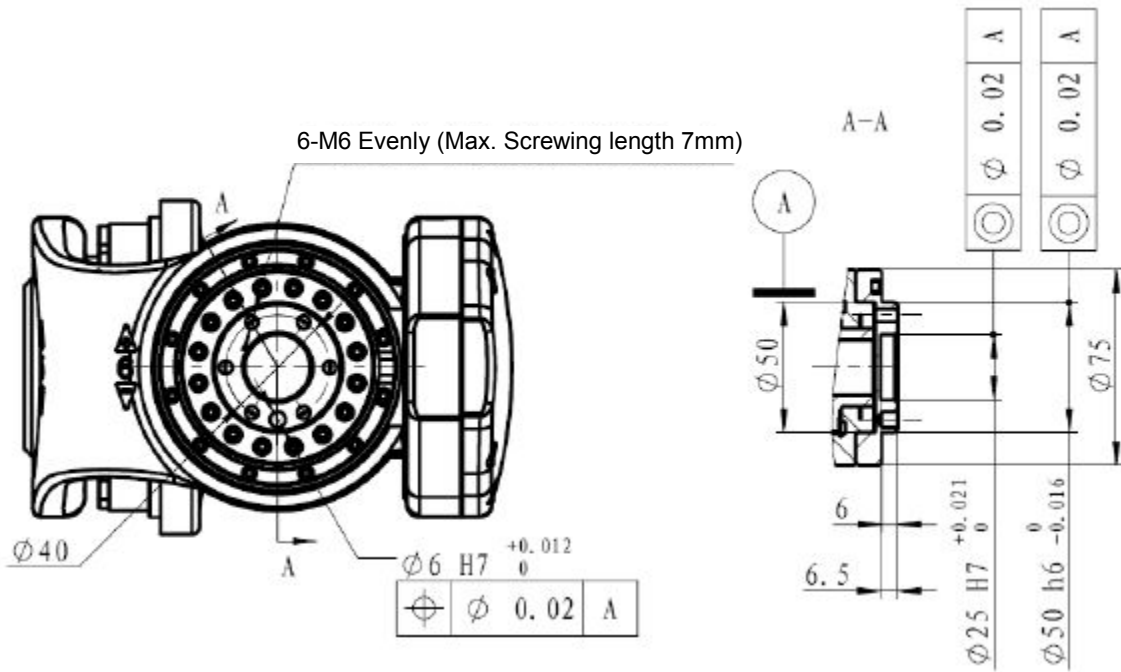
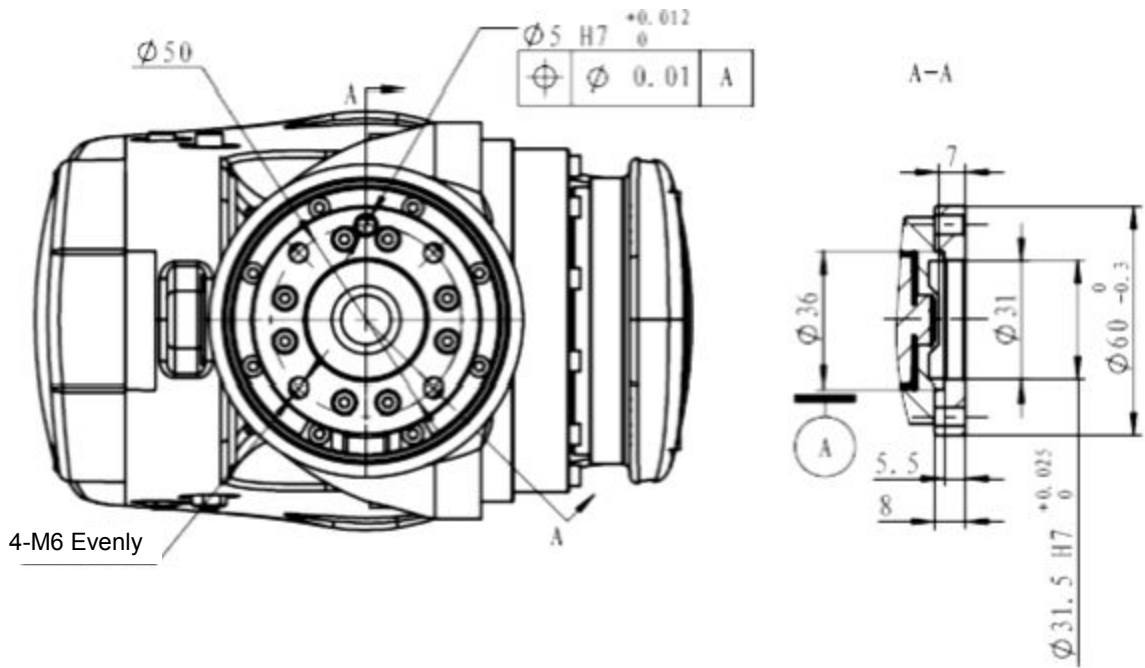
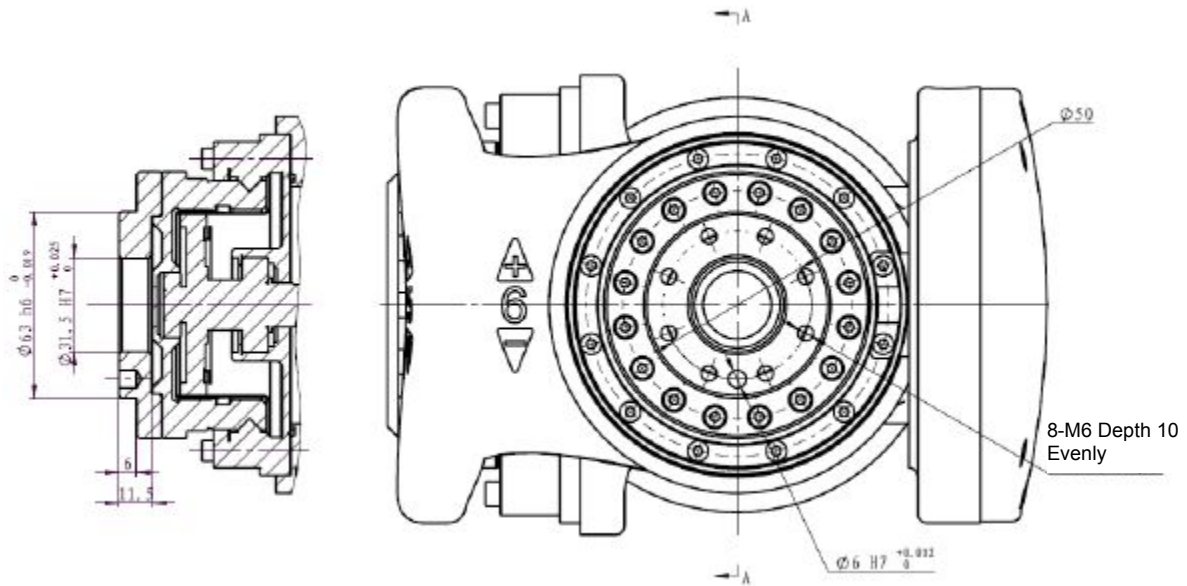

Figure 3-14 SR20 Tool Flange Installation Dimensions
Figure 3-15 SR18L8 Tool Flange Installation Dimensions
Figure 3-16 SR25 Tool Flange Installation Dimensions
4. SR20 tool flange installation dimensions are shown in fig.3-14; SR18L8 tool flange installation dimensions are shown in fig.3-15; SR25 tool flange installation dimensions are shown in fig.3-16.